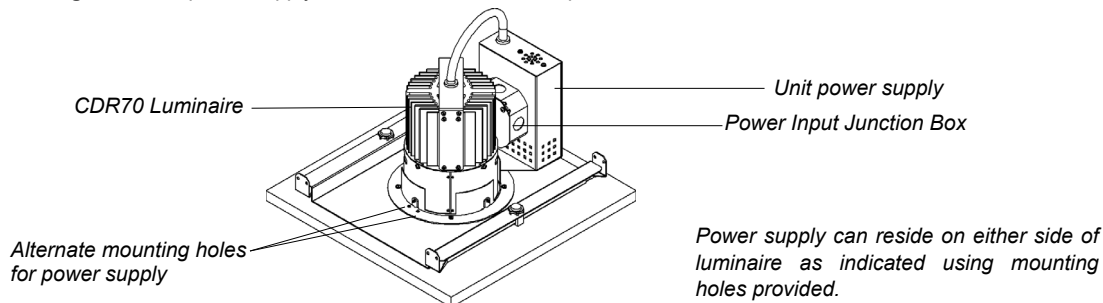

Figure 8: CDR70 Main Dim New Construction Model
- Step 1. For mains dim models only, the unit's power supply can be installed in either side of the luminaire mounting area as shown in **Figure 8**. The power supply must be installed in either position for fixture installation.